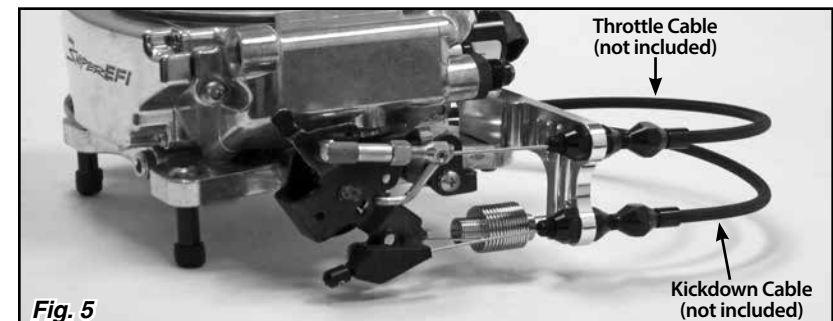

Fig. 5
Step 5: Install the Lokar Throttle Cable and/or Kickdown Kit according to the instructions included with those parts. The Throttle Cable uses the top hole in the aluminum throttle cable bracket, and the Kickdown uses the lower hole. See Fig. 5 for a completed installation with a Lokar Throttle Cable and Kickdown Kit.